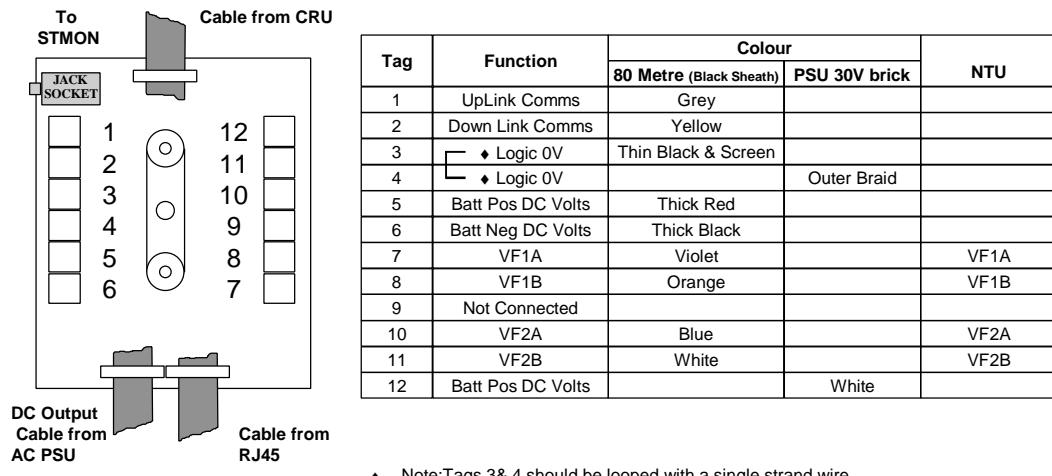
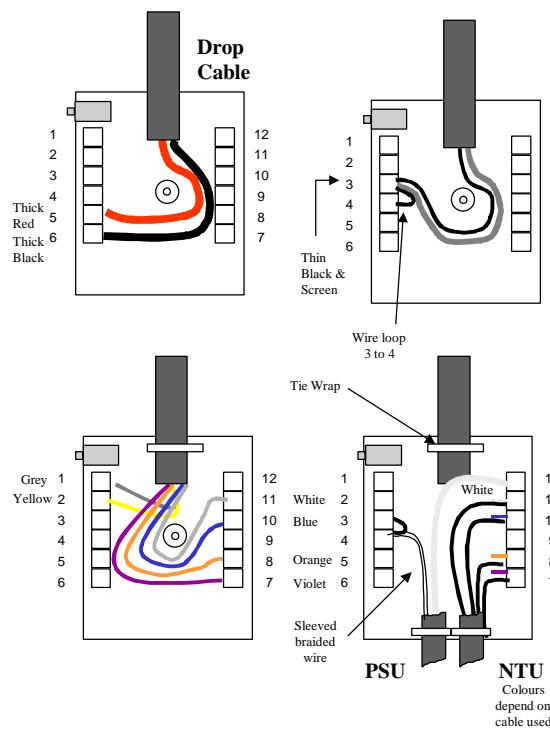

Figure 21. Drop Cable Connections to Junction Box.
Figure 22. CRU Drop Cable Forming And Terminating In The Junction Box
4. Figure 21 below, illustrates the connections of the drop cable to the connector blocks inside the Junction Box. Figure 22 shows the order of wire insertion to ensure that the cables fit in the junction box. When connecting the thick stranded wire ensure that the screws are fully undone and the hole fully opened to allow the wire to be inserted without displacing strands. A wire loop should be inserted between tags 3 & 4.